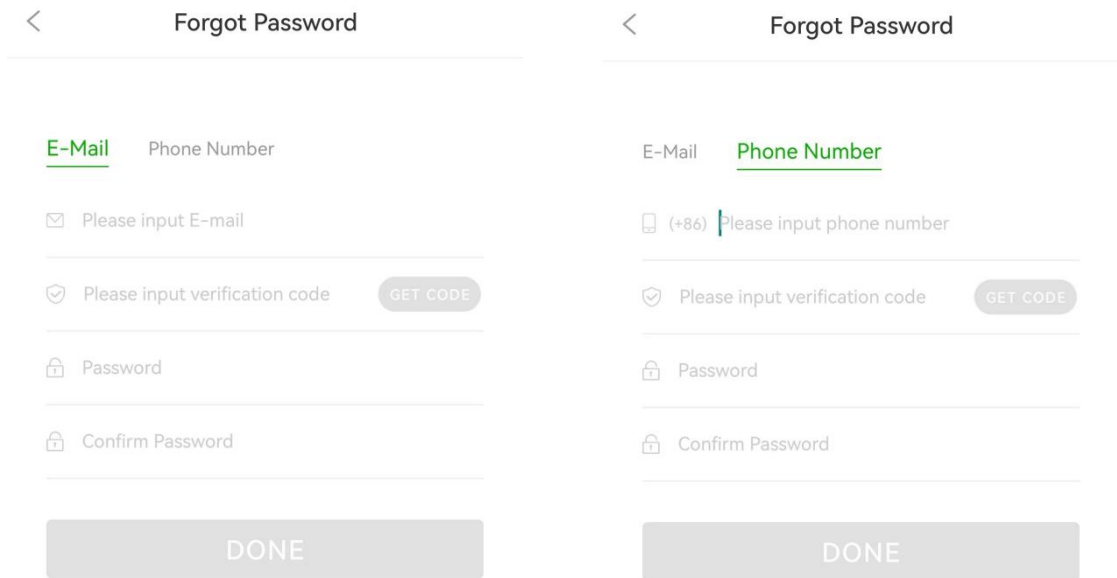

Figure 3-2 User login
- 1.If you forgot your password, you can click "Forgot password" on the login screen to retrieve your password by email or mobile phone number, as shown in Figure 3-2.